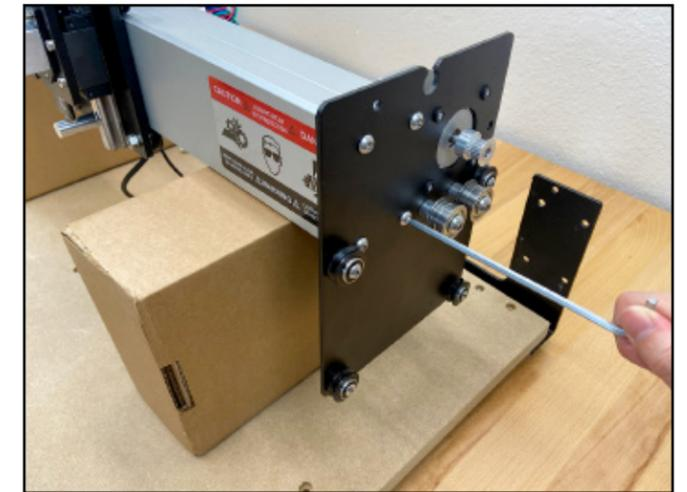

Figure 3-18
2. Use the 4mm hex key and four (4) M6×12mm button head cap screws to attach the Y2-carriage to the open end of the X-rail. See **Figure 3-18**.